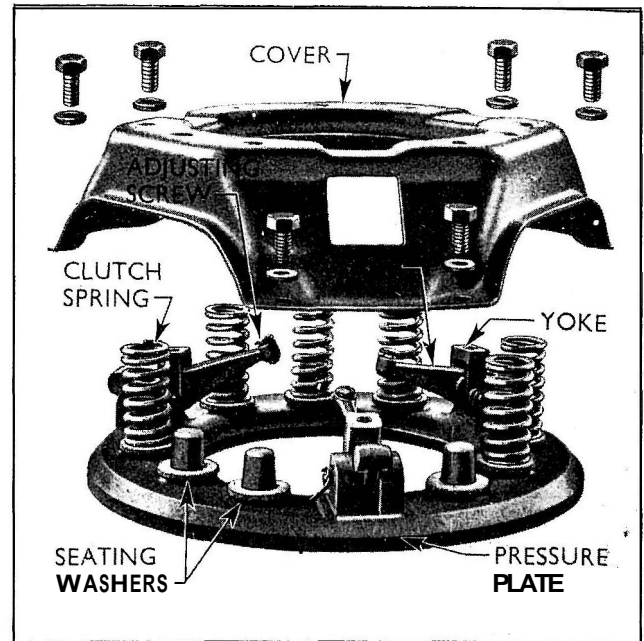

Fig. 279
- 1 (a) On each lever insert the small roller at the top of the hole in the lever (nearest the adjusting screw), locate the yoke and fit the yoke pin with the flat surface towards the roller. (See Fig. 279.)